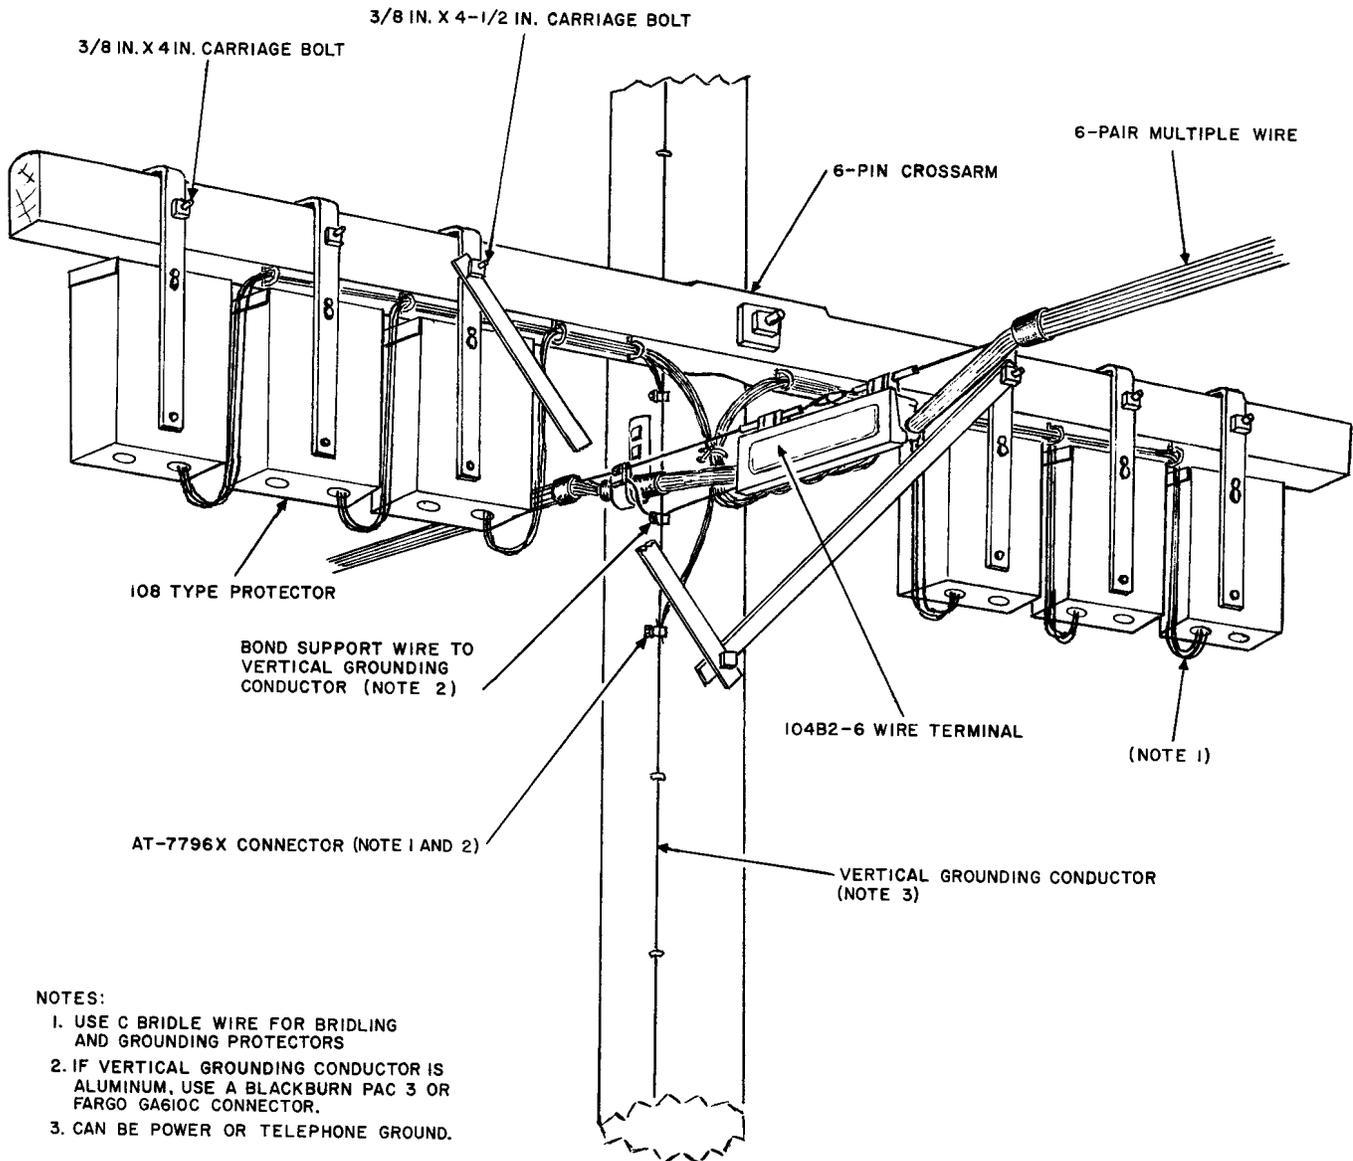
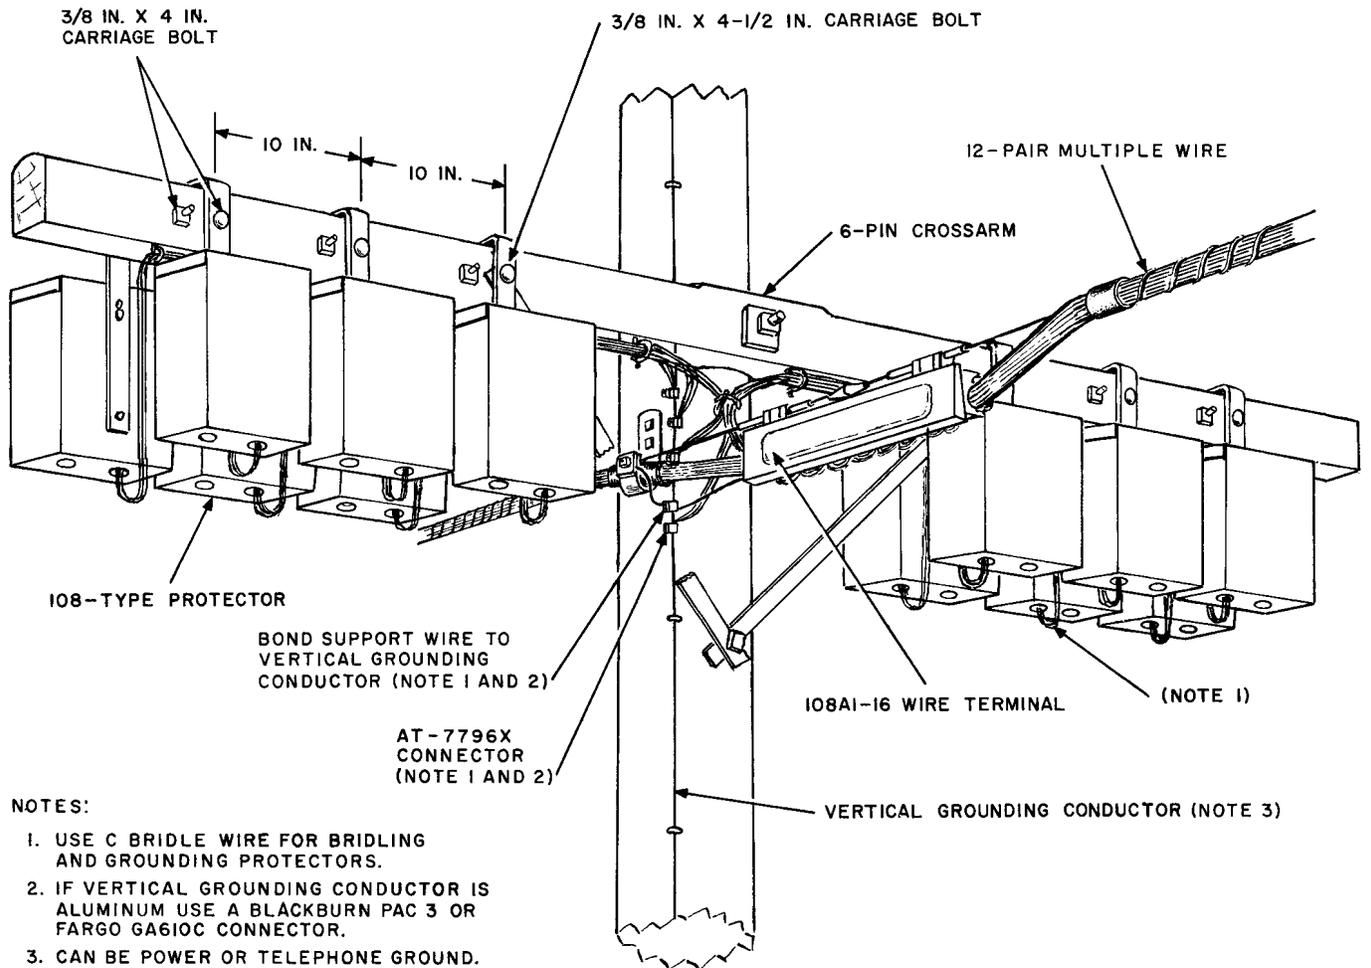

Fig. 10—108-Type Protectors Mounted with 6-Pair Multiple Wire
Fig. 11—108-Type Protectors Mounted with 12-Pair Multiple Wire
6.03 Mounting the 108-type protectors and wiring them to 6-pair or 12-pair multiple wire is shown in Fig. 10 and Fig. 11.